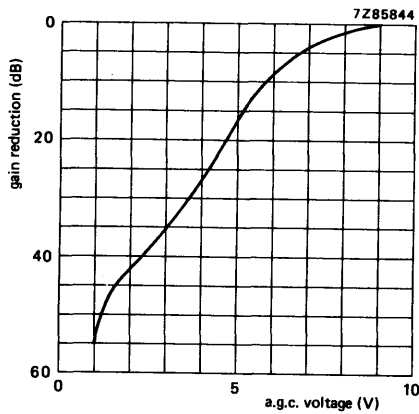

Fig. 6 Typical a.g.c. characteristic, low v.h.f.
A.G.C. range (Figs 6 and 7)	min. 40 dB